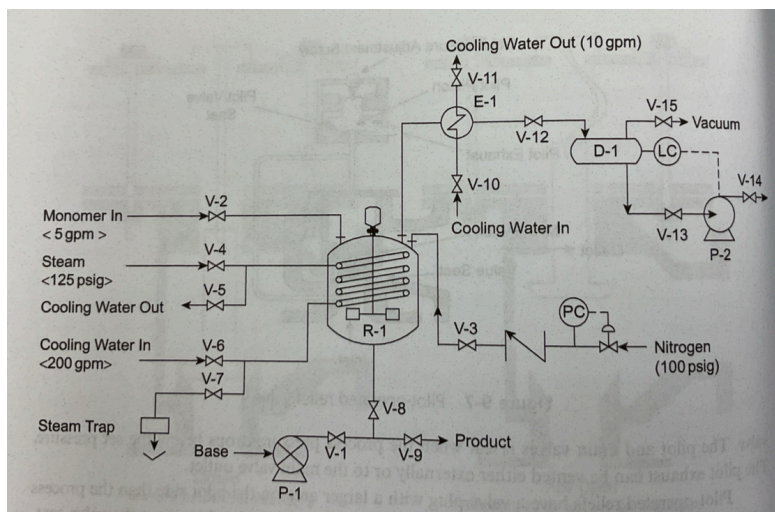

Figure 12: Process flow diagram of a polymerization process. *Source: Crowl and Louvar, Chemical Process Safety, 4th Edition, Figure 9-8.
2. Use the provided reactor drawing (Figure 12 above) and identify three locations where you would place relief devices, justifying each choice.